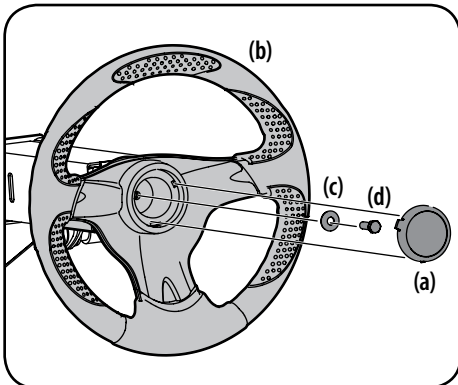

Figure 2-5
3. Place the Belleville washer (c) over the steering wheel (b) and secure with the hex lock screw (d). See Figure 2-5.